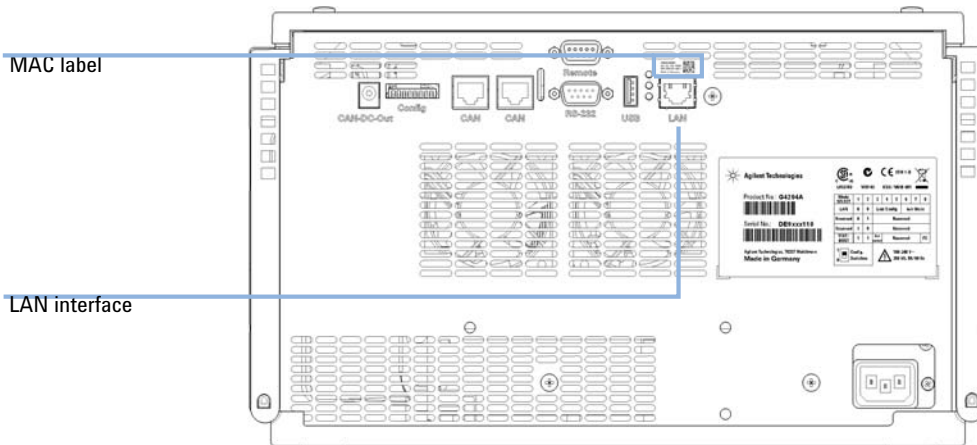

Figure 36 Location of LAN interfaces and MAC label
- 1 Note the MAC (Media Access Control) address for further reference. The MAC or hardware address of the LAN interfaces is a world wide unique identifier. No other network device will have the same hardware address. The MAC address can be found on a label at the rear of the module underneath the configuration switch (see Figure 36 on page 266).
- 2 Connect the instrument's LAN interface (see Figure 36 on page 266) to